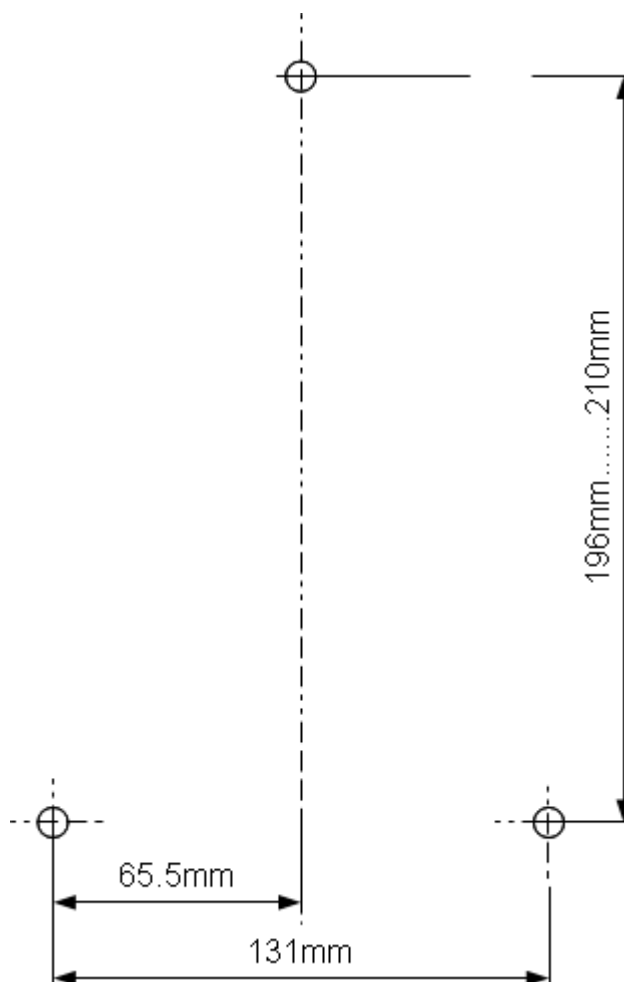

Fig.4.2. Drilling plan
5. Make the three holes for fixing screws on the surface where the meter has to be installed. The mounting dimensions are according with Fig 4.2.